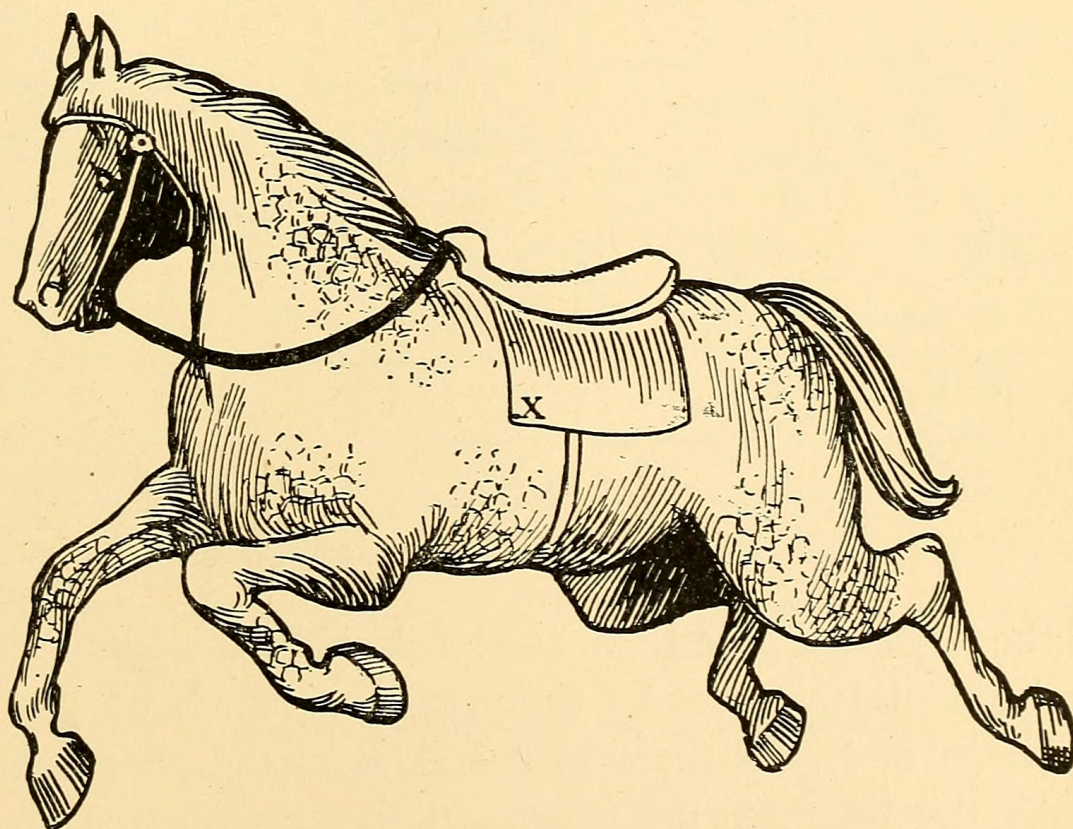
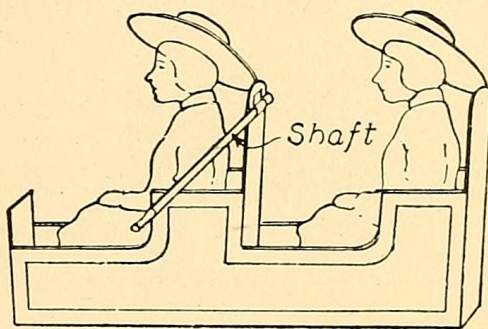

FIG. 261. — Full-size Pattern for the Horses of the Merry-go-round.
FIG. 263. — A Completed Sleigh showing Attachment to Shaft.
**The Horses.** A full-size pattern for these is shown in Fig. 261. Take a piece of *tracing-paper* or any thin
in the flaps and glue them to the dashboard and to the back. Cut two seats by the pattern given, bend down the flaps and glue them to the sides of the sleigh, and make the back for the front seat like that on the back seat (Fig. 263). Then make another sleigh similar to the one just completed, for two are required for the merry-go-round. Paint the sleighs green or yellow with trimmings of a lighter shade.
To fasten the horses to the shafts, punch a hole through three of them at *X* (Fig. 261) and slip each one over a shaft, then tack the other three horses to the ends of these shafts at the point *X*. To fasten the sleighs to the remaining shafts, glue one end of a piece of paper to the back of the front seat and the other end around the shaft (Fig. 263).